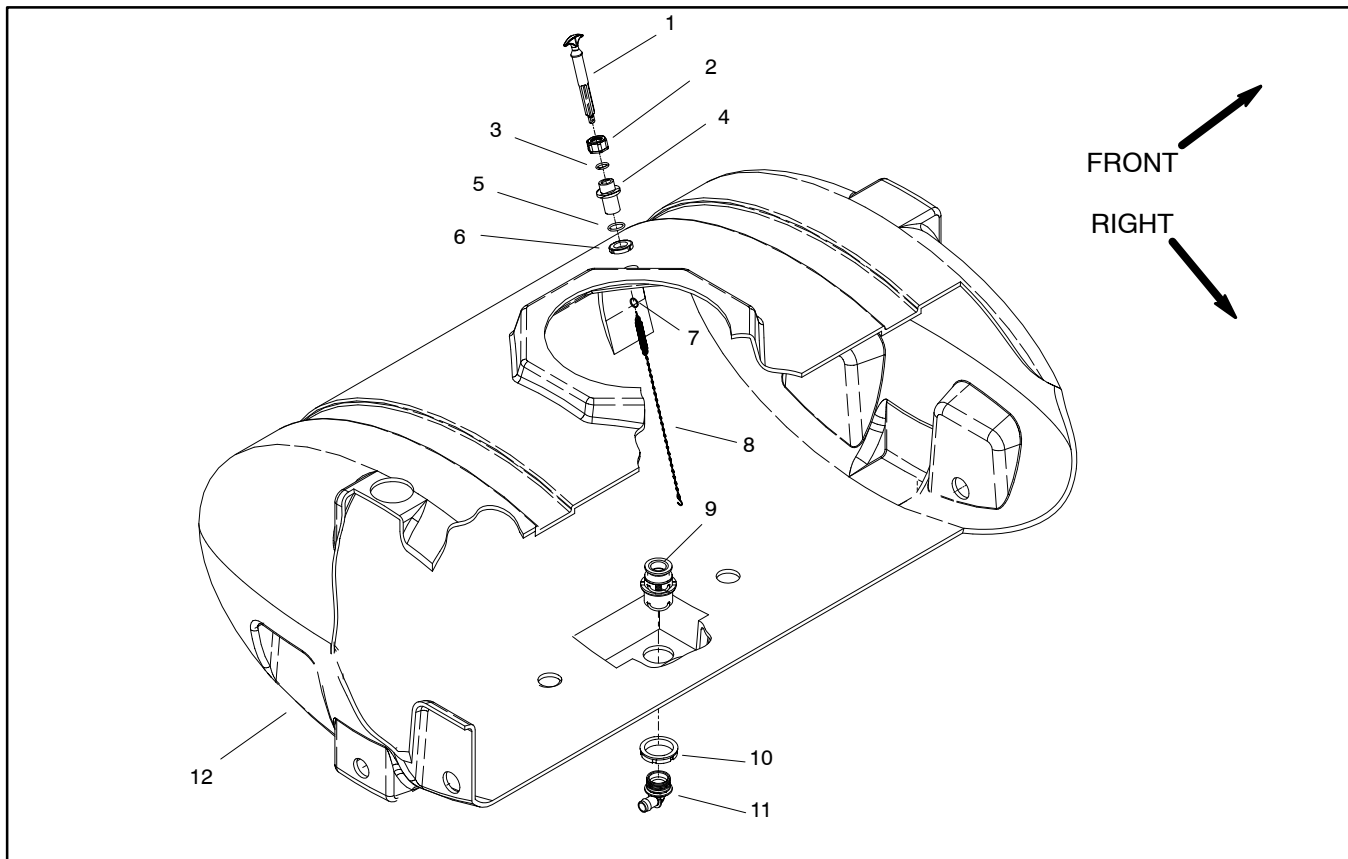

Figure 33
Disassembly (Fig. 33)
3. Raise tank lid and remove strainer basket to gain access to chain (item 7) that connects drain handle (item 1) to plunger in drain assembly (item 8). Disconnect chain from drain handle.
4. If necessary, remove drain handle and bulkhead from tank using Figure 33 as a guide.
Assembly (Fig. 33)
2. Assemble drain valve components using Figures 33 and 34 as guides.